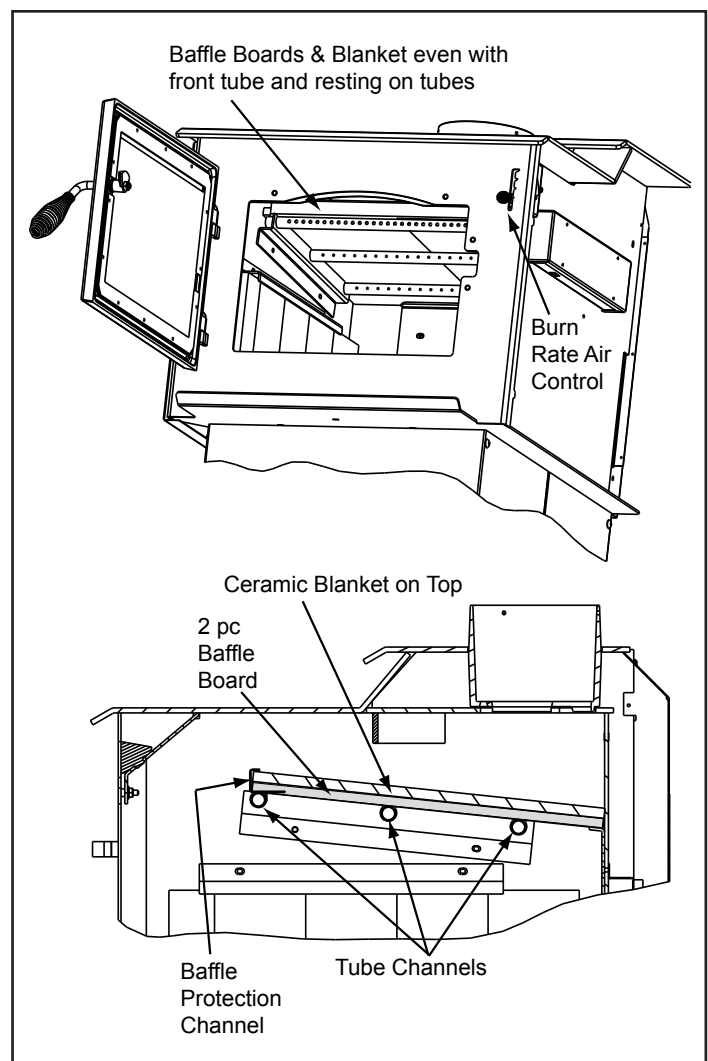

Figure 12.1
1. Confirm the baffle and ceramic blanket are correctly positioned. See **page 11** for detailed diagrams. They should be even with the front tube and resting on both tubes. **Figure 12.1.**